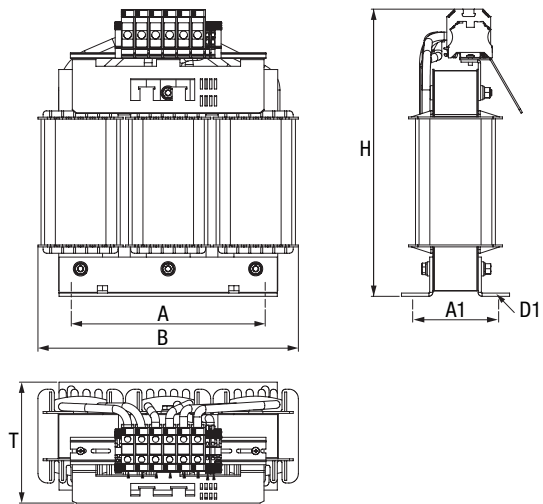
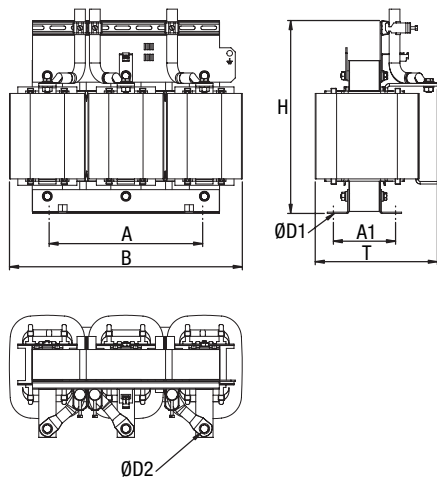

Figure 3.16 Dimensional drawing, step-up choke, based on Size 5 and Size 6A as an example
Figure 3.17 Dimensional drawing, step-up choke, based on Size 7 as an example
1. Position the step-up choke as close as possible to the supply unit. Pay attention to the bending radius of the connection cables. For dimensional drawings/hole spacing see Figure 3.16 and Figure 3.17 and Table 3.3.